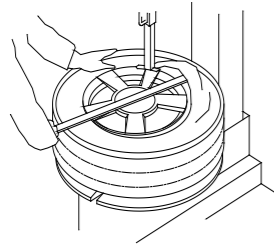

Fig.06
- Lift the bead onto the mount/demount head with the bead lifting tool, and step on the turntable control pedal (see 10 in Fig.01) to turn the turntable clockwise till the bead is separated completely. See Fig.06. It is suggested to place the mount/demount head about 10mm to the right side of the air valve if the wheel has a tube, so as not to damage the tube.